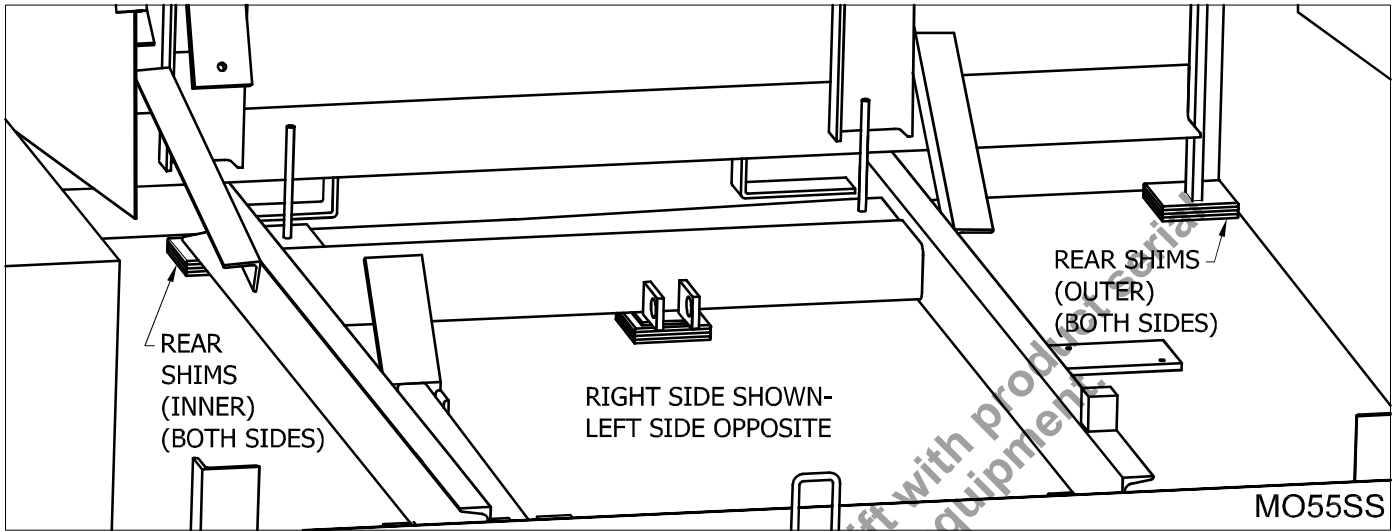

Figure 28: Rear Shims
3. ___ Rear shims (Left and Right side). (See “Figure 28: Rear Shims” on page 21)